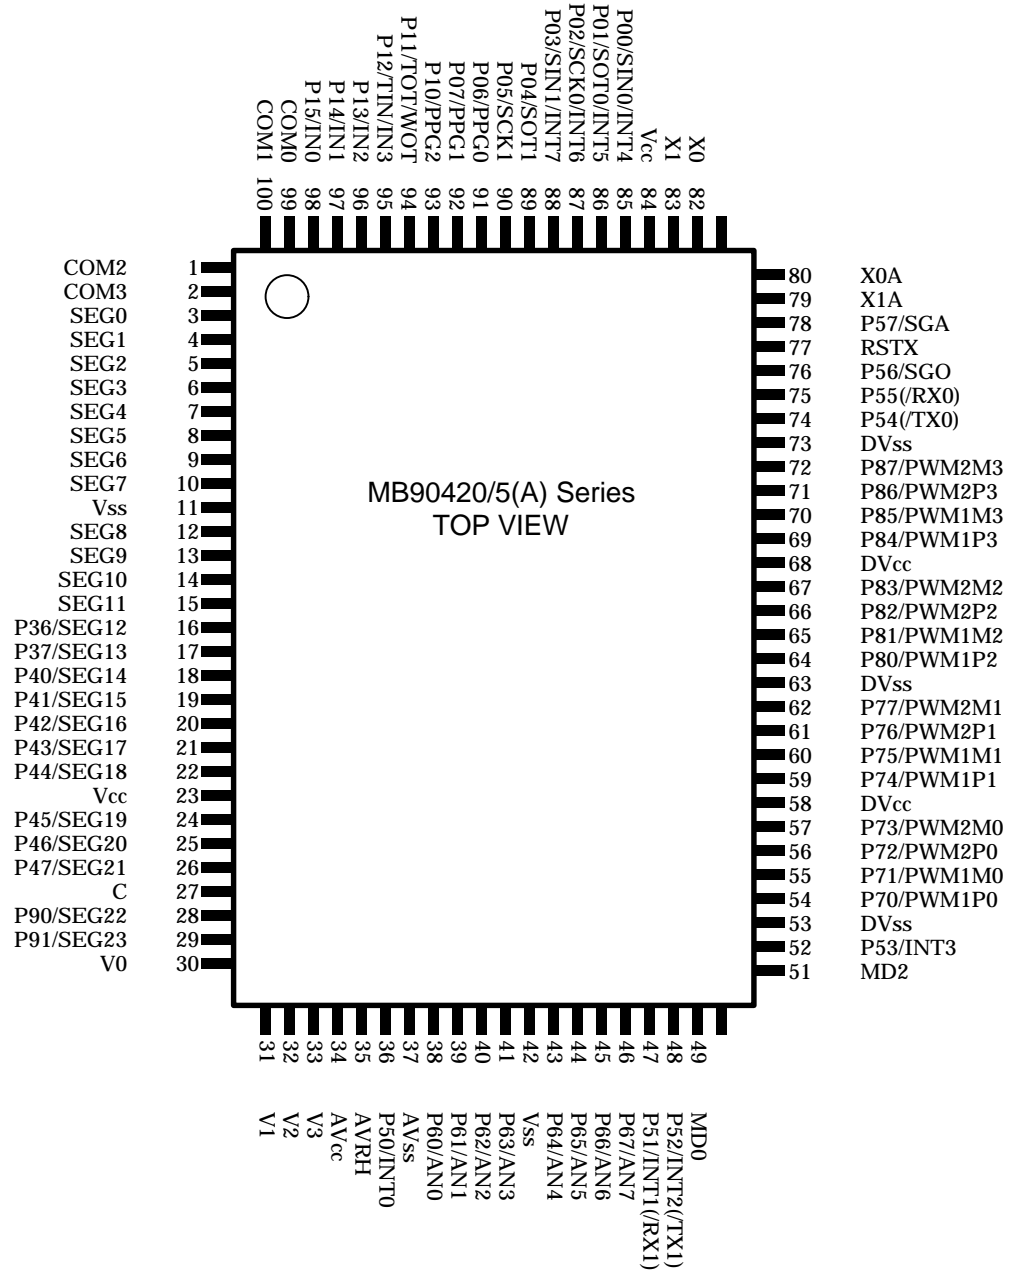

Fig. 1.5.1 Pin Assignments
Figure 1.5.1 shows the pin assignments of the MB90420/5(A) series.